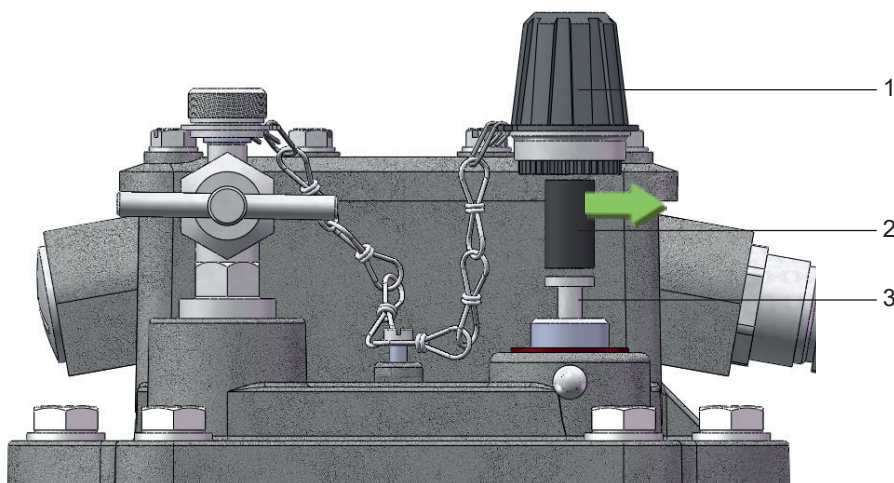

Fig. 13 – Removal of transport lock
- Remove the large cap nut (Fig. 13/1) from the test key (Fig. 13/3).
- Remove the transport lock (Fig. 13/2) from the cap nut.